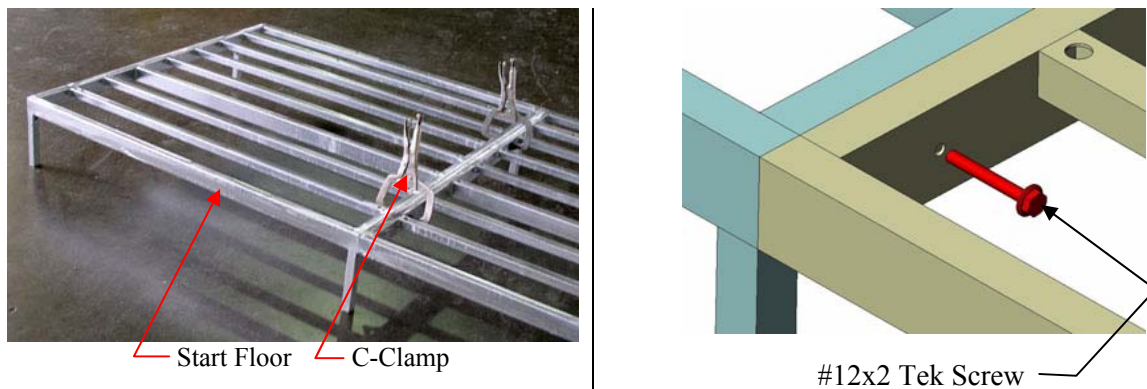

Figure 4
2. Arrange floors starting with the Start Floor (four or six-legs) on the far left. Attach a Center Floor (two or three legs) to the first Start Floor as shown in **(Figure 4)**, using 2" Tek Screws at the pre-drilled holes. Use the same method to attach all the remaining floors with two or three-legs. Repeat this procedure for the other row of kennel floors. Make any final adjustments and move floors into their final position.